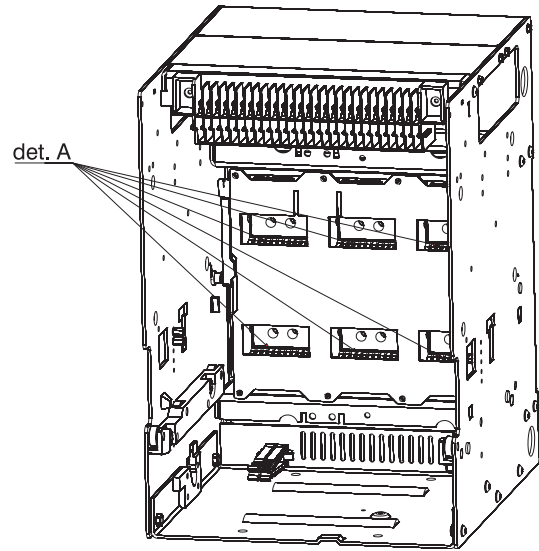

Fig. 39
- Check the circuit-breaking couple for damage (for the fixed part, see feature A, fig 39).